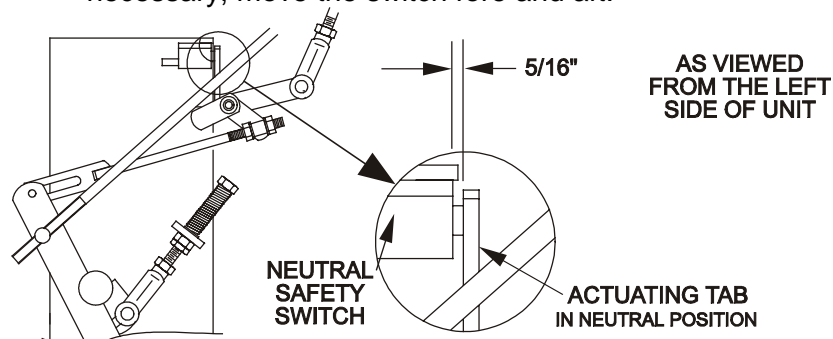

FIGURE 13
3. Pull the speed control lever back to neutral. Check that the neutral safety switch actuating tab has depressed the plunger of the switch so that there is about 5/16" between the tab and the switch (See Figure 13). If necessary, move the switch fore and aft.